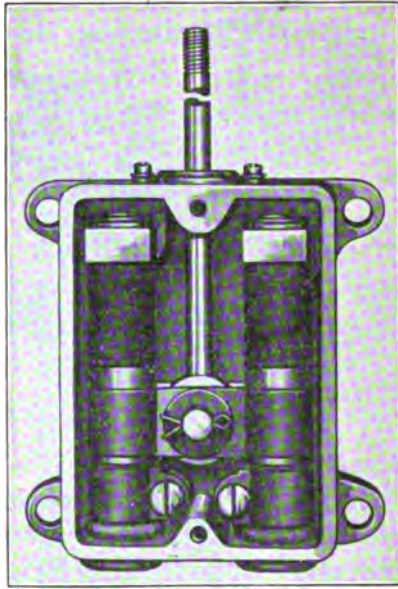
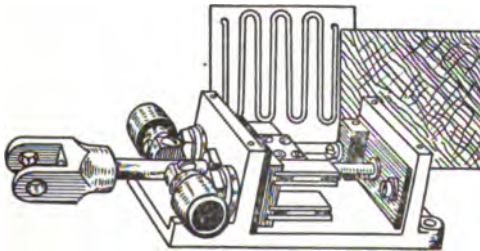
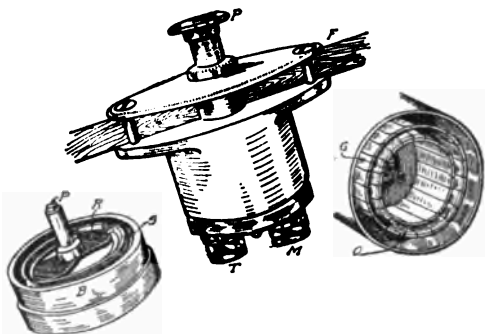

Fig. 172. Remy Starting Switch
Fig. 173. Dean Knife Starting Switch
Fig. 174. Gray and Davis Button Starting Switch
*Miscellaneous Starting Switches.* The type of switch used in connection with the Remy system is shown in Fig. 172. Both this and the Westinghouse switch described are known as butt-contact switches. The knife type of switch is also employed in several systems, Fig. 173 showing the Dean switch of this class. A somewhat unique form of contact is shown in the Gray and Davis switch, Fig. 174. There being no starting gears to mesh, it is only necessary to turn the current